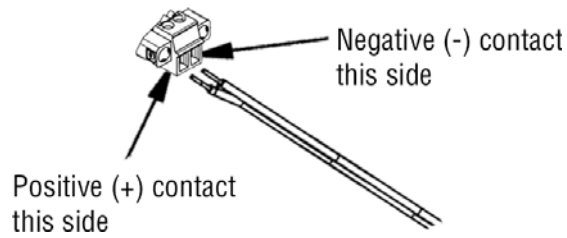

Figure 23. Power source leads installation
3. Insert the positive lead into the opening on the terminal block labeled + and the negative lead into the opening on the terminal block labeled - (see figure 23).